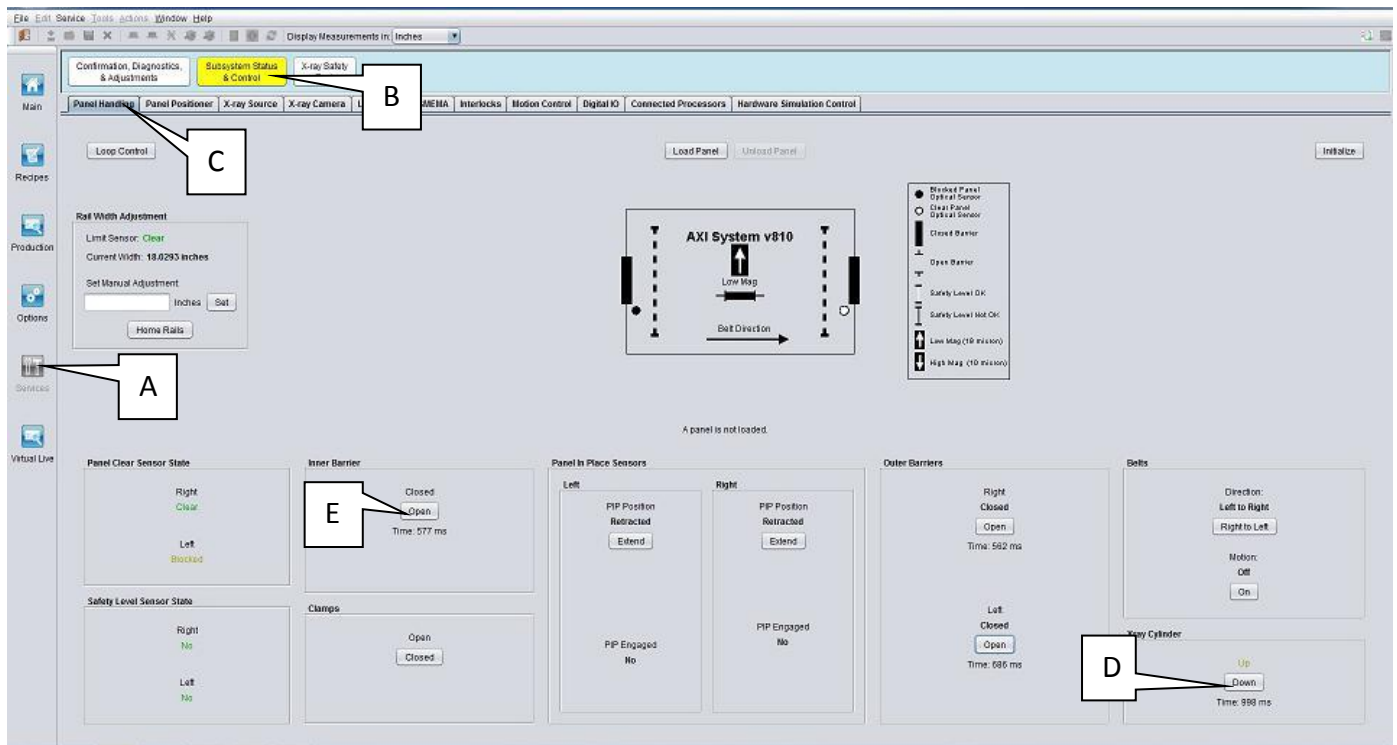

Figure 17 Panel handling
21. Go to Panel Handling tab, ensure tube cylinder in Up position, manually trigger Inner Barrier Open/Close few times, and check for the shutter plate movement as Figure 17. Ensure the movement is smooth, if not smooth, might be shutter plate friction with tube Beryllium surface. Trigger cylinder down at Panel Handling and slightly adjust the Low Mag hard stop to higher position.